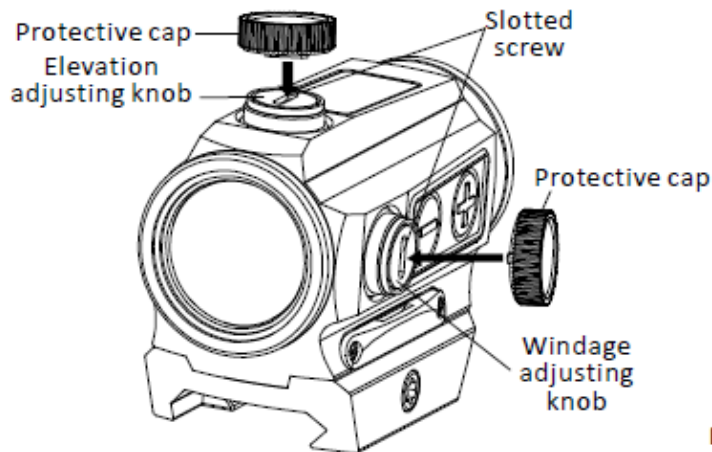

Fig 5
1. The elevation adjustment turret is on top of the sight, the windage adjustment turret is on the right side (see Fig 5). The sight has been factory adjusted for approximate zero.
2. The screw driver tool on the protective cap can be used for zeroing adjustment (see Fig5). See label inside cap.